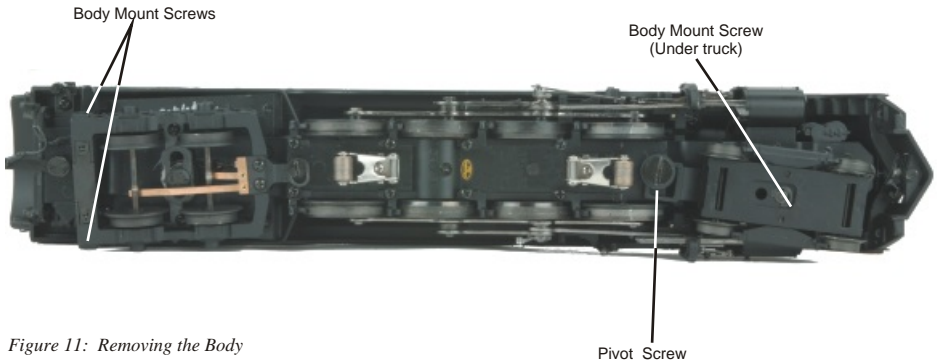

Figure 11: Removing the Body
1. Remove boiler from chassis as shown in Figure 11 on page 14
If you experience poor or no smoke output when the smoke unit is on and has fluid, check the wick to see if it has become hard, blackened, and nonabsorbent around the heating element. To remove the smoke unit you will first have to remove the boiler shell (by removing the body mounting screws shown in Fig. 11 on pg. 14).